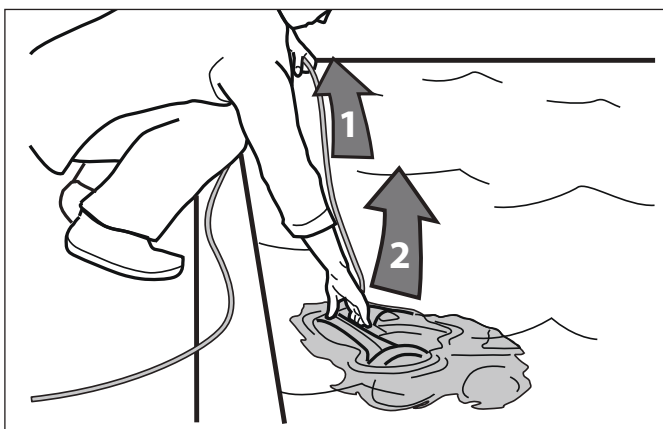

Figure 21. Remove Cleaner From Pool
- Never lift the cleaner out of the pool by the floating cable. Always use the handle to remove it from the pool (refer to Figures 21 and 22).
9. Remove the cleaner from the pool using the handle (refer to Figures 21 and 22). Never lift the cleaner out of the pool by the floating cable.